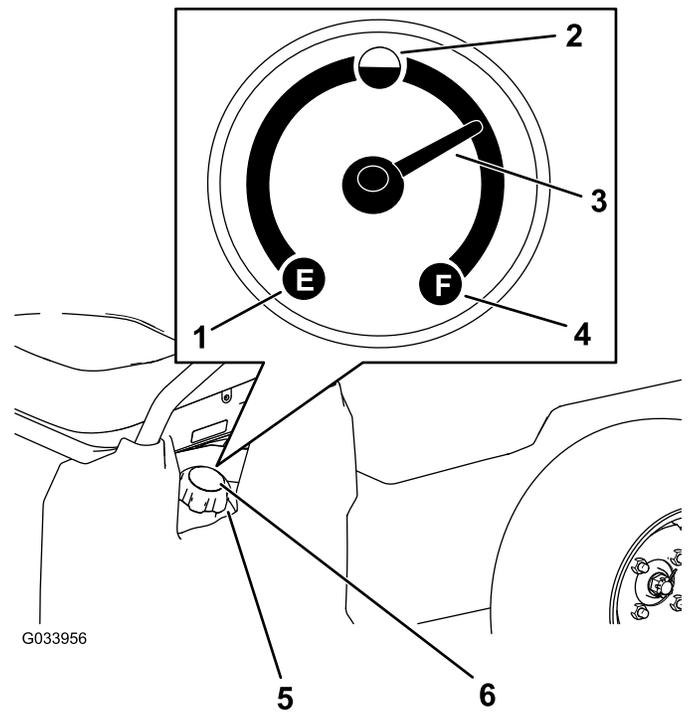

Figure 12
4. Clean the area around the fuel-tank cap (Figure 12).